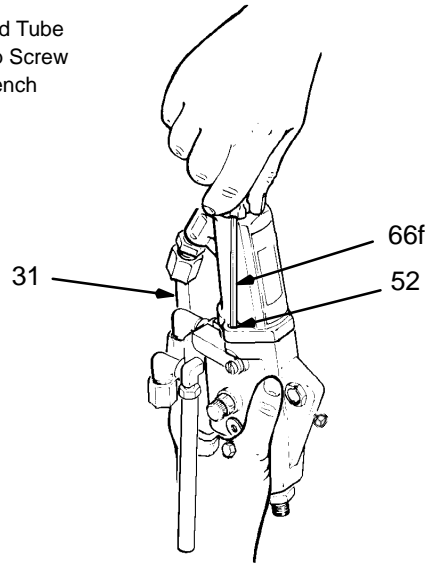

Fig 12
1. Unscrew the nut (34) at the gun's fluid inlet adapter (35). See the **PARTS DRAWING**.
2. Pull the fluid tube (31) out of the fluid adapter (35).
4. Remove the ES indicator lights from the socket head cap screws (52).
5. Using the wrench (66f) supplied, loosen and remove the two socket head cap screws (52) from the gun. See Fig 12.
2. Install the two socket head cap screws (52) and tighten with the wrench (66f). See Fig 12.
3. Snap the ES indicator lights in place over the socket head cap screws (52).
4. Insert the fluid tube (31) into the gun's fluid inlet adapter (35) and tighten the nut (34).